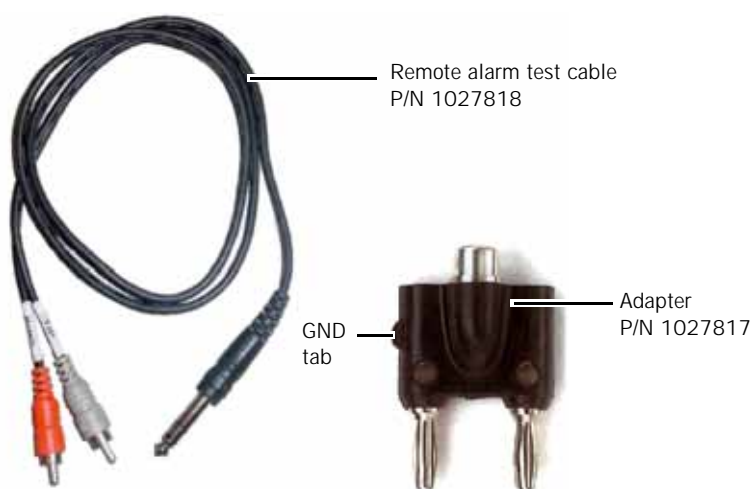

Figure 8-21: Remote Alarm Test Cable and Adapter
4. Connect the adapter's double banana plugs to the DMM with the GND tab to the common jack (Figure 8-21). Set the DMM to measure resistance.